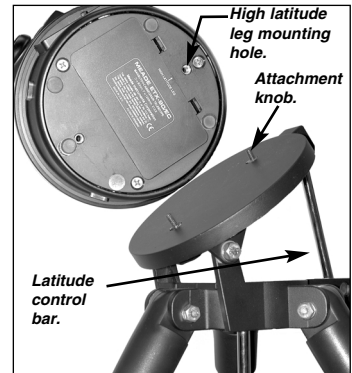
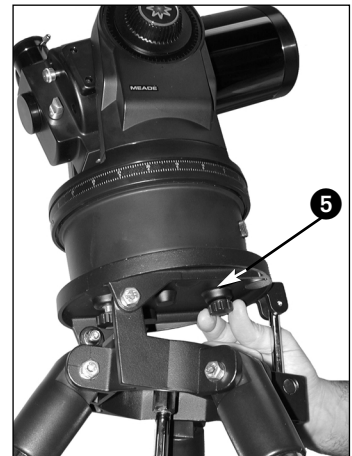

Fig. 2: High latitude leg mounting hole and corresponding attachment knob.
Fig. 3: Attach telescope to tripod.
3. **ETX-90RA model:** Line up the two mounting holes of your telescope over the attachment knobs (5, Fig. 3). Thread the attachment knobs into the base of the telescope. Tighten to a firm-feel only.
ETX-90EC, ETX-105EC, and ETX-125EC models with Electronic Controller (EC): Line up the mounting hole on the base of the telescope labeled "High Latitude Leg" with the attachment knob that is closest to the latitude control bar (see Fig. 2). Line up the other mounting hole with the remaining attachment knob. Thread both attachment knobs into the base of the telescope. Tighten to a firm-feel only. (See Fig. 3.)
2. **ETX-70AT model:** Line up the two mounting holes of your telescope over the attachment knobs (5, Fig. 3). Thread the attachment knobs into the base of the telescope. Tighten to a firm feel only.
ETX-90EC, ETX-105EC, and ETX-125 models with Autostar: Line up the mounting hole on the base of the telescope marked "High Latitude Leg" with the attachment knob that is closest to the latitude control bar (see Fig. 2). Line up the other mounting hole with the attachment knob at the bottom of the tilt-plate. Thread both attachment knobs into the base of the telescope. Tighten to a firm feel only. (See Fig. 3.)